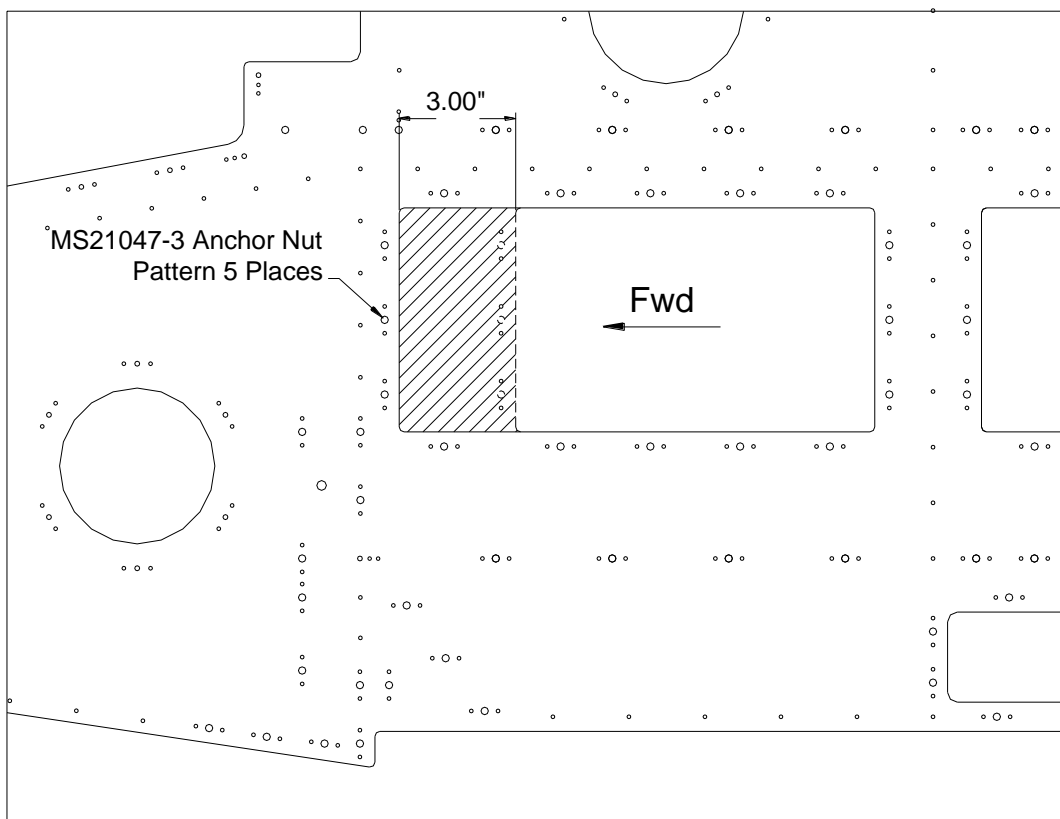

Figure 7-3 – Solenoid box floor opening extension
11. Extend the solenoid box floor opening by 3.0" as per Figure 7-3. Use the new elongated solenoid box (P/N GA8-533023-23) as a pattern to locate 5 additional anchor nut positions at the front of the extended opening. Rivet MS21047-3 anchor nuts to the floor using MS20426AD3-3 rivets.